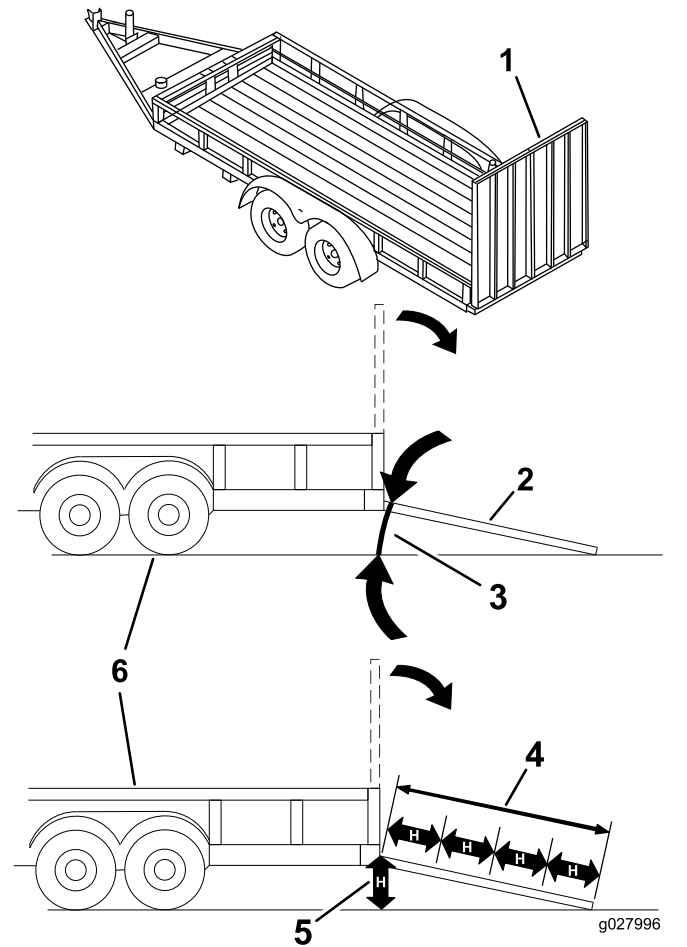

Figure 43
Loading a machine onto a trailer or truck increases the possibility of tip-over and could cause serious injury or death (Figure 43).
3. Lower the ramp, ensuring that the angle between the ramp and the ground does not exceed 15 degrees (Figure 43).
1. Lower the ramp, ensuring that the angle between the ramp and the ground does not exceed 15 degrees (Figure 43).